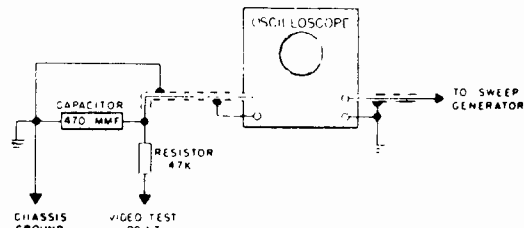

Figure 5 - Oscilloscope Connections
5. Remove the V.T.V.M. and connect the vertical input of the oscilloscope to point "B" See Fig. 12, using the isolation network as shown in Fig. 5.